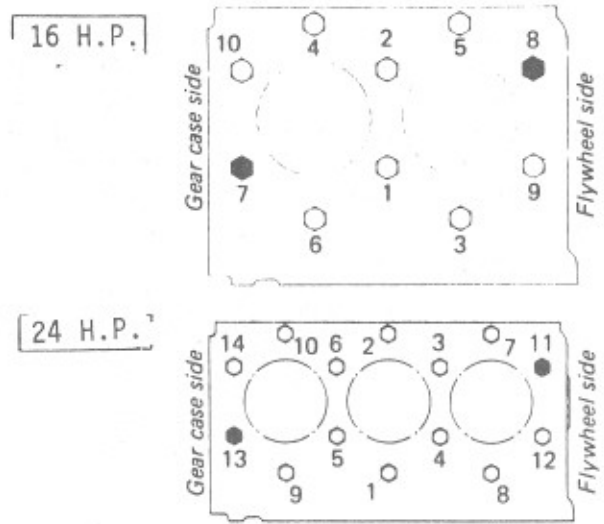

Fig. 23. Tightening of Cylinder Head Bolts
■ Tightening cylinder head capscrews (Fig. 23)
- (1) The tightening torque of the cylinder head capscrews is 54 to 58 ft lbs. (7.5 to 8.0 kg-m). Numbers 7, 8 and 11, 13 (◆) in the diagram are studs. The nuts on these studs should also be tightened to this torque.
- (2) All the capscrews must be tightened uniformly. To do this, tighten all the capscrews in the order indicated on the diagram until they are just snug. Then tighten each one 1 (one) turn at a time in this same sequence each time until all have been tightened to the required torque.
- (3) The cylinder head capscrews should be re-tightened if the engine has not been used for a long time. The valve lash should also be adjusted each time the cylinder head capscrews are retorqued. If the cylinder head gasket has been replaced, run the engine for about 30 minutes and re-tighten the cylinder head capscrews as described above.